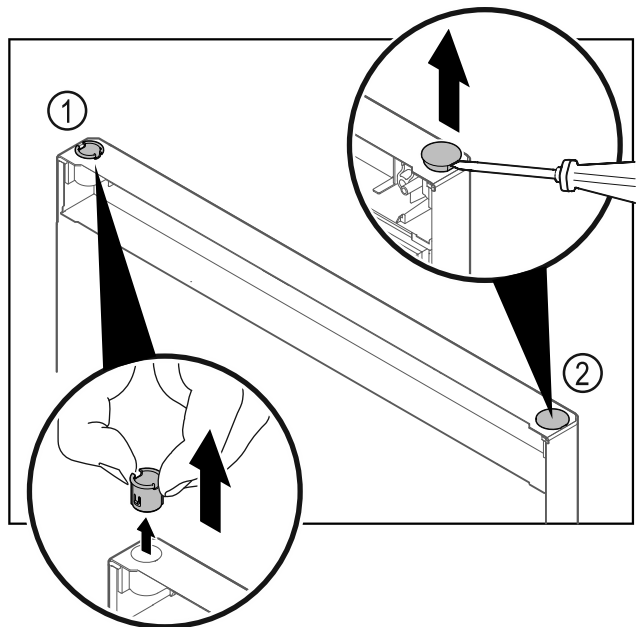

Fig. 19
- ▶ Pull out the hinge bushing Fig. 19 (1) with your fingers.
- ▶ Carefully lift the cover plug Fig. 19 (2) with a slotted screwdriver and pull it out.